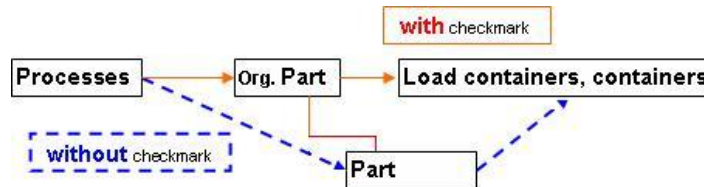

Figure 175: Schematic Diagram
- **Loading of parts and containers by a parent object:** Whether you enable the **Loading of parts and containers by a parent object** function or not depend on your configuration. If the containers are linked to an organizational node of the product structure in the configuration (*Please refer to the Figure 175*), you must check the box. In the default configuration the load containers and containers with technical nodes are linked and you do not have to check the box.